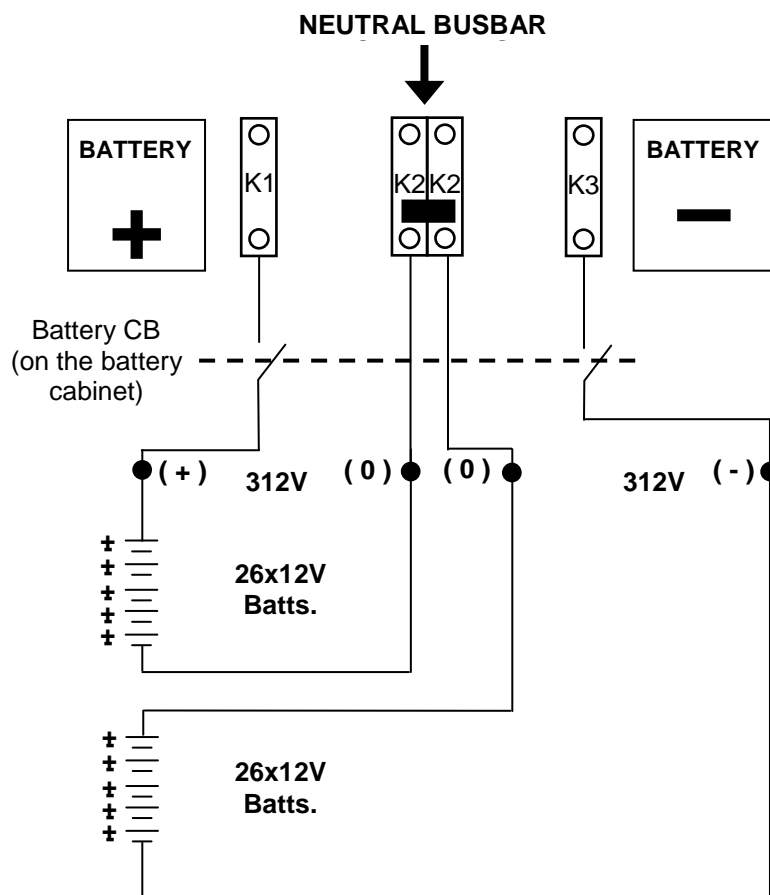

Figure 2.3 Battery Connections (52x12V)
6. After interconnecting the batteries as shown in Figure 2.3 connect "+", "0" and "-" leads of the batteries to the battery input terminals on the UPS. Be careful to connect the batteries correctly and do not turn on (S5) before checking all connections and before starting the UPS. In CL-300T Series UPS, 52 blocks of batteries are connected in series, in such a way that they form two strings of batteries with opposite polarity; with a center tap connection to the NEUTRAL (N1-N2) internally.